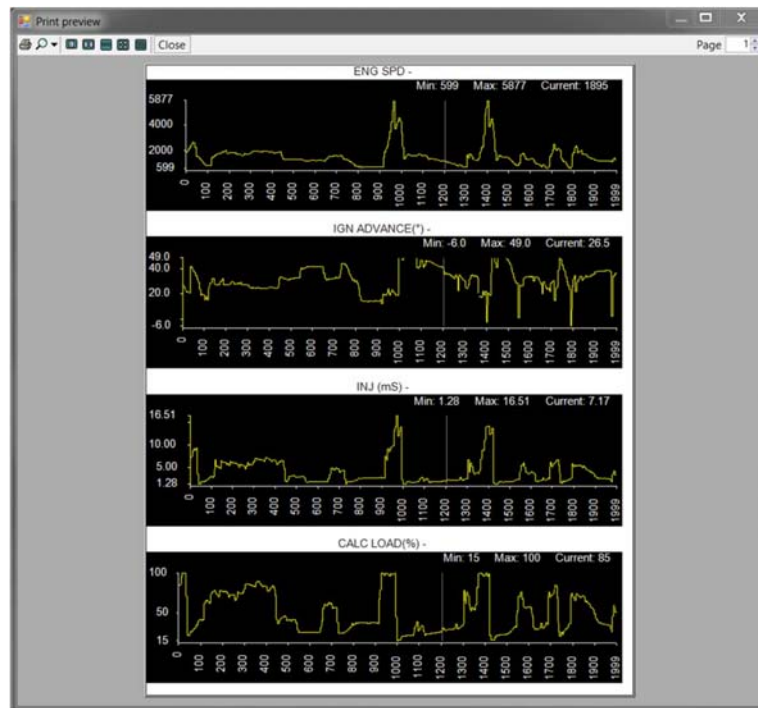

Figure 12-11 Print preview window
- b. If Graph(s) Print Preview was selected, a preview window opens. Select the printer icon (Figure 12-11) to send the file to the printer.